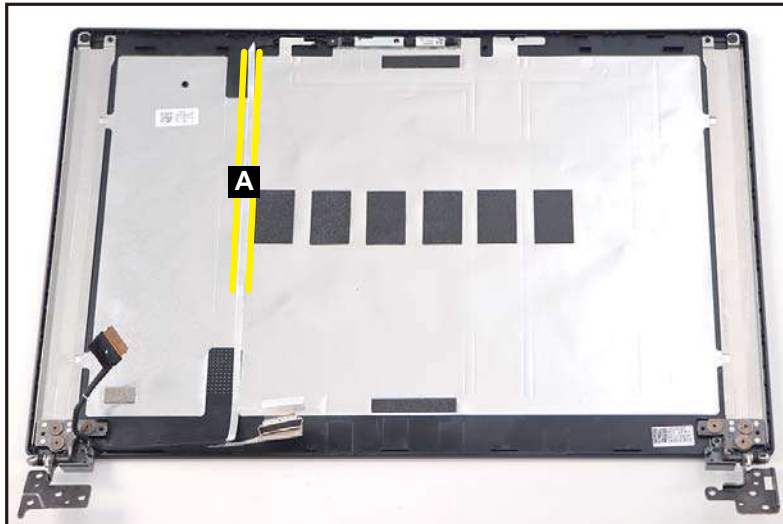

Figure 3-66. LCD Cable Removal
1. Unroute the LCD cable (A) from the cable guides on the LCD cover (Figure 3-66).
While unrouting the LCD cable, carefully lift the portion of cable (highlighted by the yellow lines) to detach it from the adhesive tape underneath as shown in Figure 3-66.